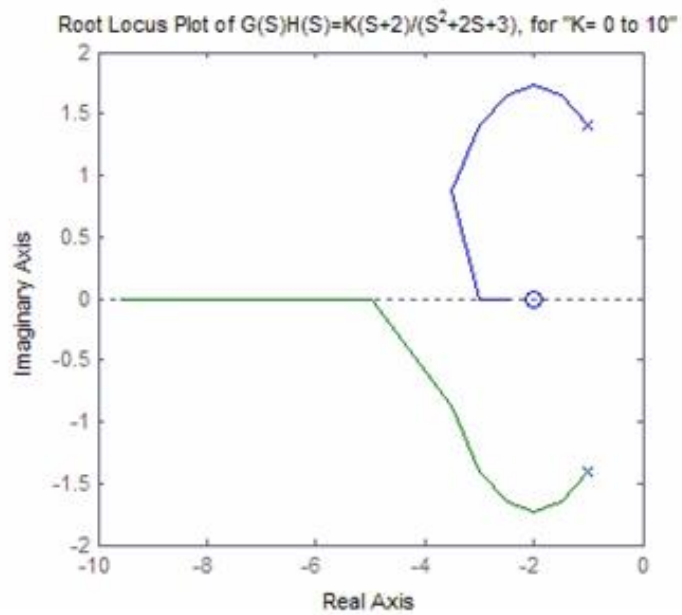

Figure 11.2b: Root locus of system for code2 for K= 0 to 10
**Observing Different Value of poles for different value of K in Figure 11.2b:**